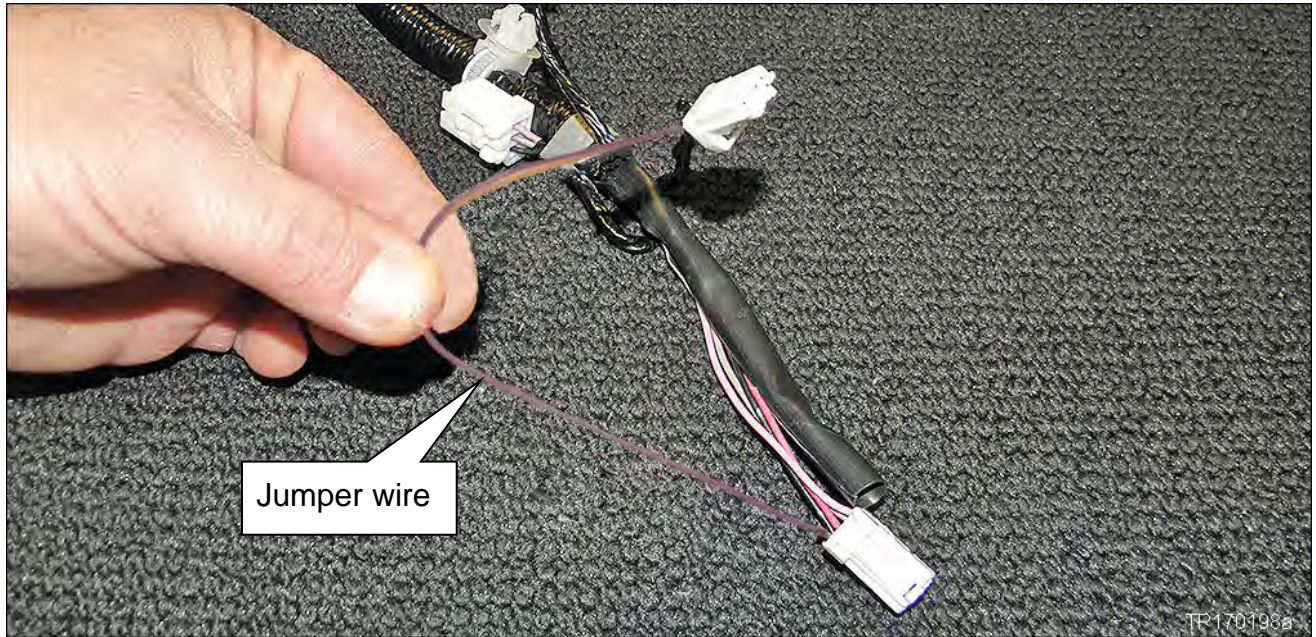

Figure 10
**NOTE:** The jumper wire is now connected as show in Figure 10.